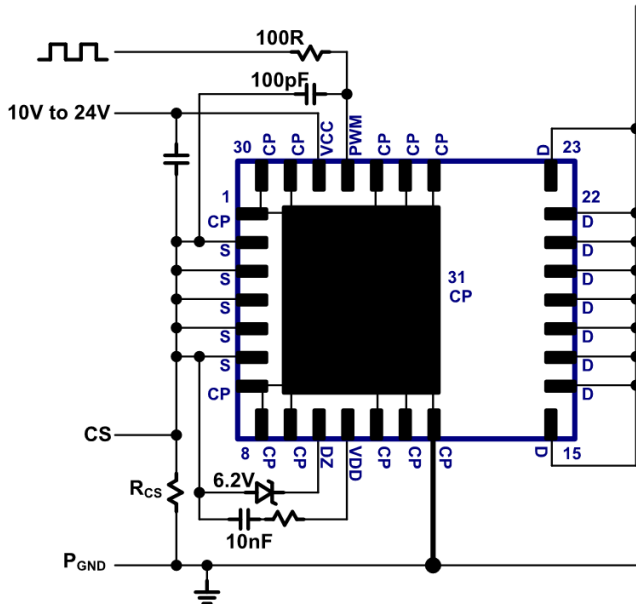

Fig. 24. Current sensing circuit
For many applications it is necessary to sense the cycle-by-cycle current flowing through the power FET. To sense the current flowing through the NV6125, a standard current-sensing resistor can be placed between the source and power ground (Fig. 24). In this configuration, all of the components around the NV6125 (C_{VCC} , C_{VDD} , D_Z , etc.) should be grounded with a single connection at the source. Also, an additional RC filter can be inserted between the PWM signal and the PWM pin (100 Ω , 100 pF typical). This filter is necessary to prevent false triggering due to high-frequency voltage spikes occurring at the source node due to external parasitic inductance from the source PCB trace or the current-sensing resistor itself. For increased cooling pad PCB copper area it may be desired to connect CP to the circuit PGND. Fig. 24 shows the components around the NV6125 grounded at the source pins (S and CP connected to PGND). This allows for all CP pins and CP pad to be connected to a large and continuous thermal copper area without being obstructed by the current sensing resistor. **CP must be connected to source (S) or circuit PGND! Do not leave CP floating!**